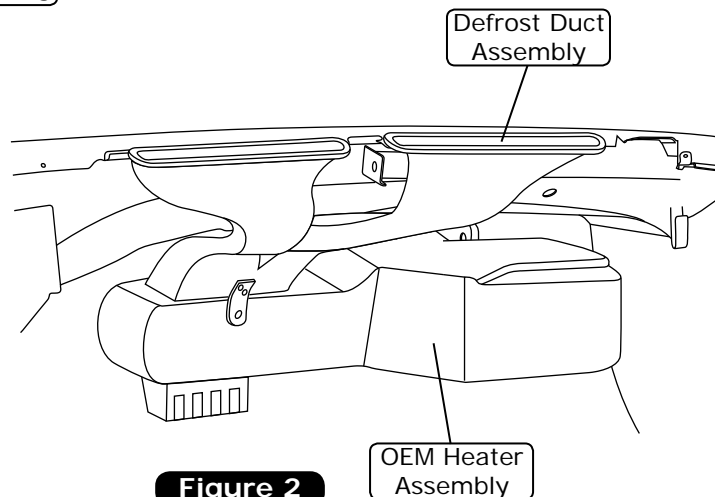

Figure 2
7. Remove OEM heater assembly (discard) (See Figure 2, below).